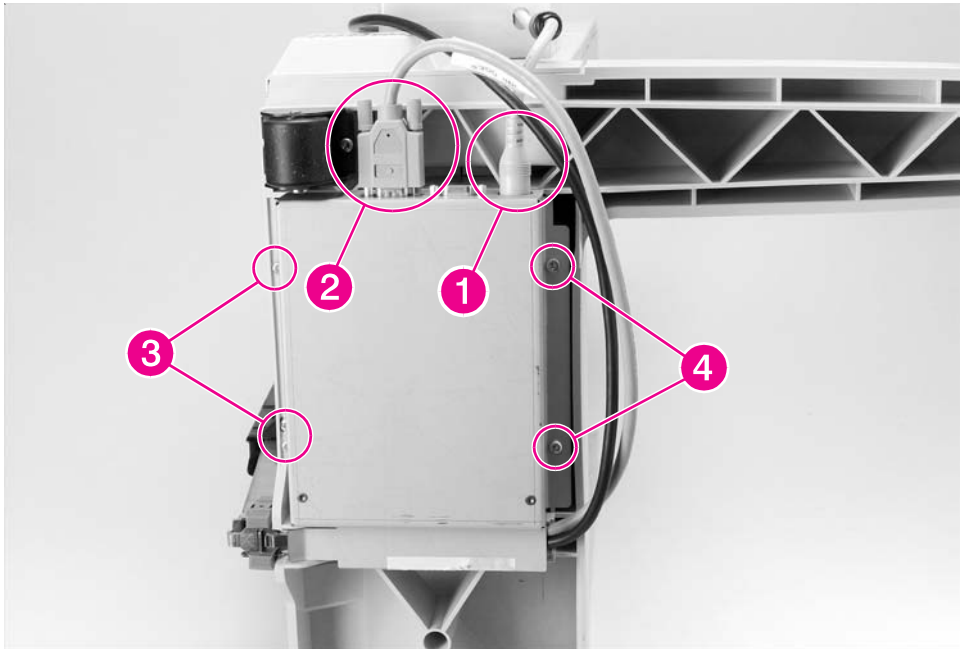

Figure 6-165 8-bin Mailbox Controller PCA (1 of 2)
- 3 Release the Controller PCA Assembly from the bottom of the 8-bin Mailbox frame (see figure 6-165 on page 400, steps 1 through 7).
- 2** Reinstall the 8-bin Mailbox Controller PCA Assembly (see Figure 6-165).
- 2 Locate the power cable that runs from the 8-bin Mailbox Power Supply down to the 8-bin Mailbox Controller PCA, and disconnect the cable from the Controller PCA (Figure 6-165, callout 1).
- 1 Disconnect the power cable and the C-link cable from the 8-bin Mailbox Controller PCA (see Figure 6-165, callouts 1 and 2).